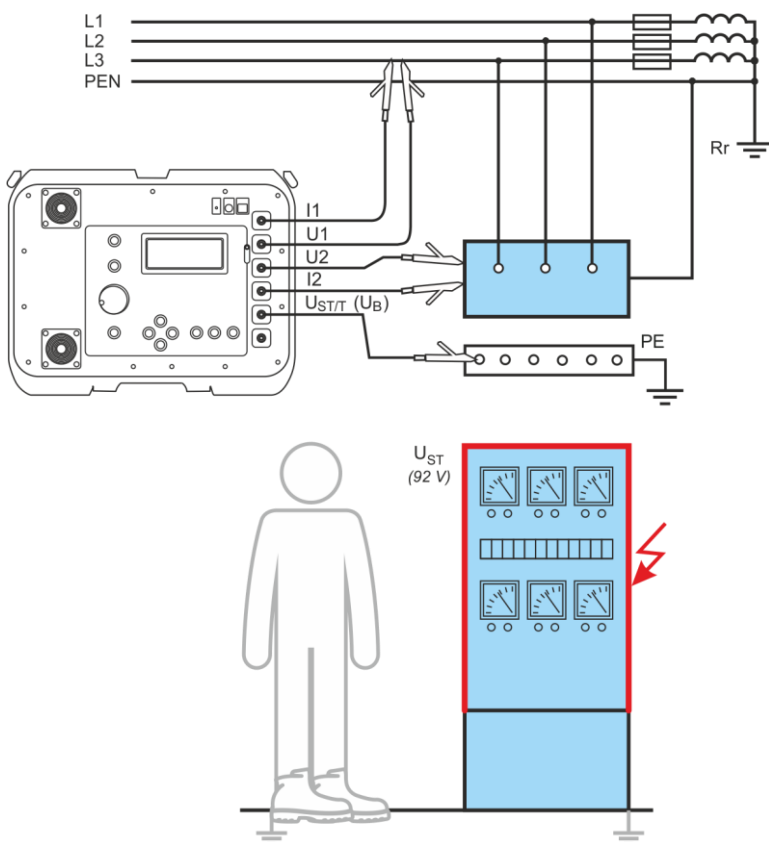

Fig. 14 Measurement of touch voltage U_{ST}
- connect test leads according to Fig. 14 or Fig. 15: